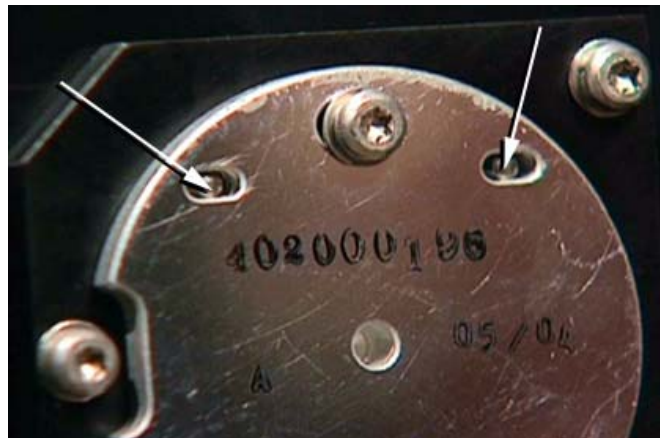

Figure 5 - Centered Alignment Pins
1. Insert the new M1 mirror into the lamp housing centering the alignment pins in the elliptically shaped mirror slots (Figure 5).